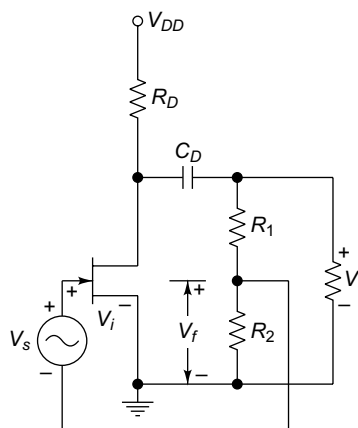

Fig. 2.48
15. Compute the gain with and without feedback for an FET amplifier as shown in Fig. 2.48 for $R_1 = 500 \text{ k}\Omega$, $R_2 = 250 \text{ k}\Omega$, $R_o = 40 \text{ k}\Omega$, $R_D = 8 \text{ k}\Omega$ and $g_m = 1000 \mu\text{S}$.